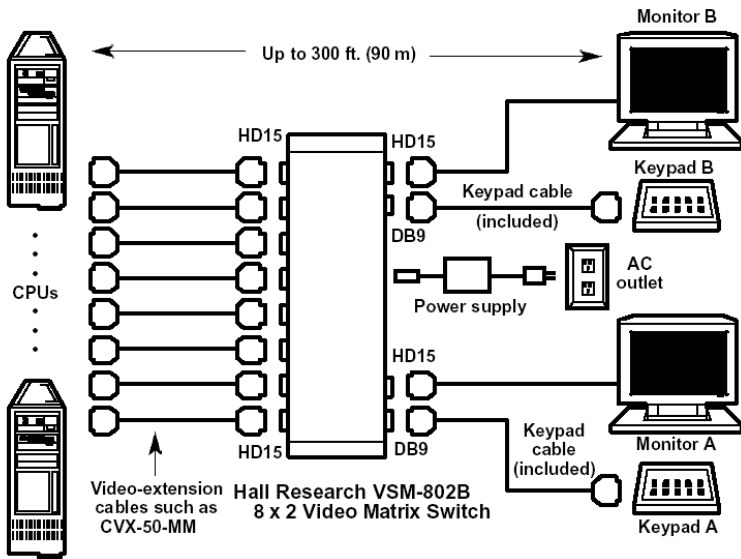

Figure 3-2. A fully installed Switch system.
3. Plug the output cord of the Switch's power supply into the Switch's 5-pin DIN female power inlet. Plug one end of the power supply's input cord into the transformer's IEC 320 male inlet; plug the other end of the input cord into a working AC outlet. Your Video Matrix Switch system is now fully installed, as shown in Figure 3-2 on the next page.